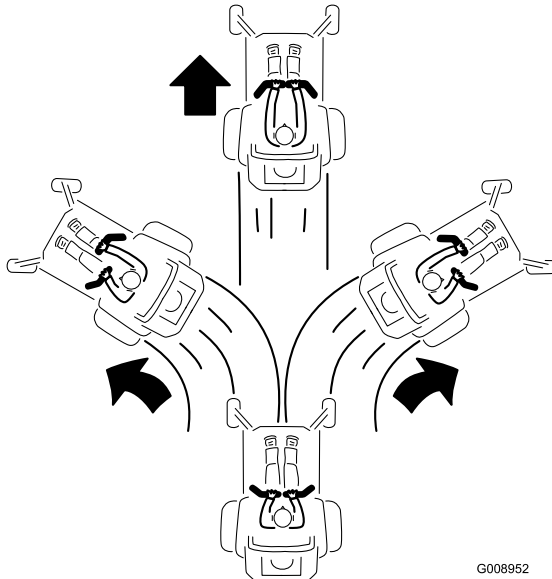

Figure 14
2. To go forward, slowly push the motion-control levers forward (Figure 14).
To go straight, apply equal pressure to both motion-control levers (Figure 14).
To turn, release pressure on the motion-control lever toward the direction you want to turn (Figure 14).